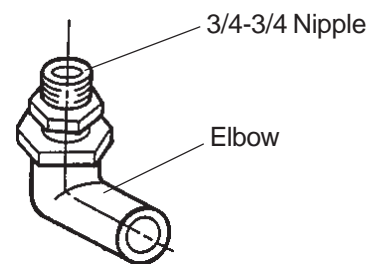

Fig. 7
- 3) Connect the 3/4-3/4 nipple (accessory) to the elbow (accessory) as indicated (Fig. 7). P.T.F.E. tape and/or a suitable sealing compound should be used to obtain a leak free joint.